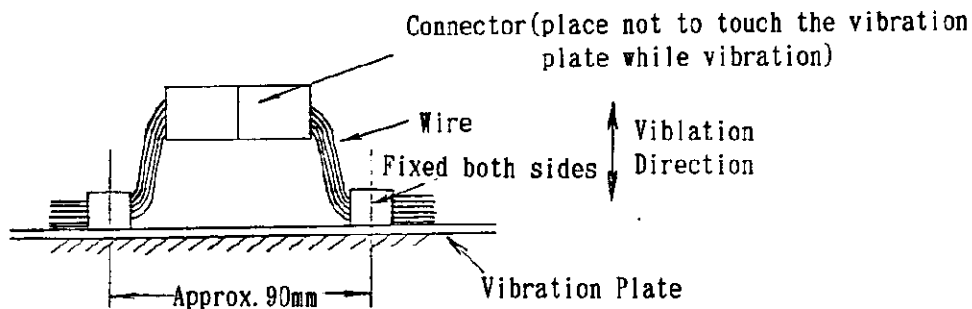
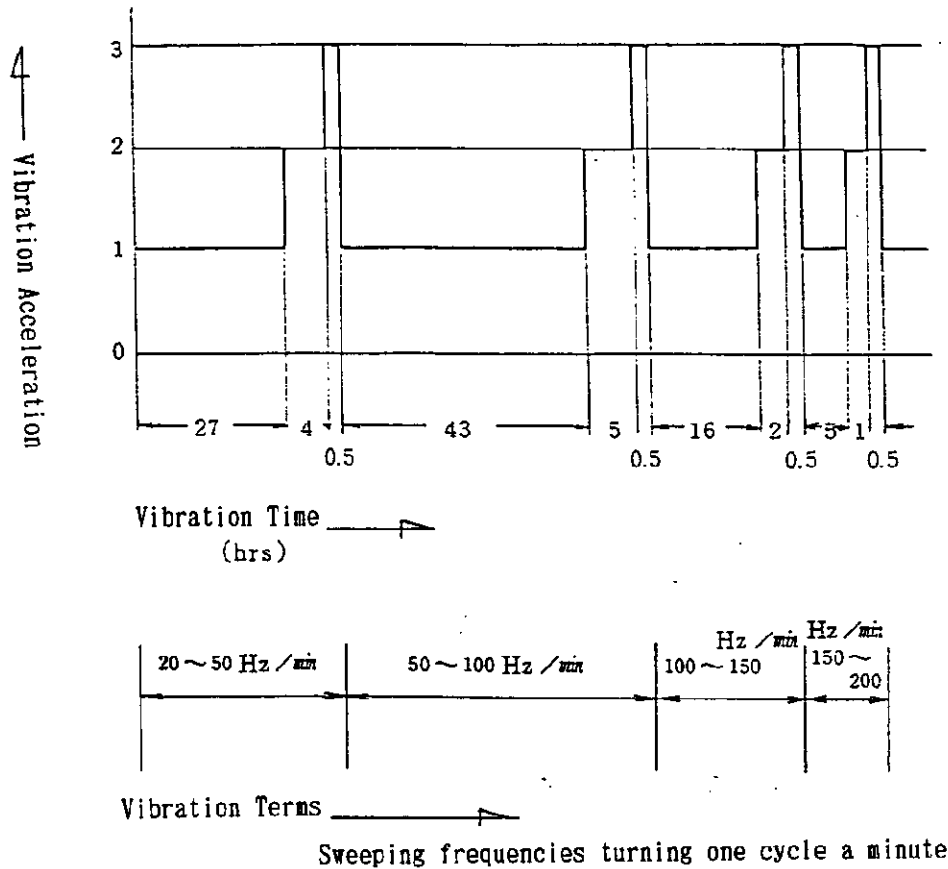

Fig. 4
Fig. 5
Contact loaded and mated pair of connector assemblies shall be tested for vibration stability performance with all contacts series wired, by having assemblies securely fastened on the plate of vibration testing machine being arranged as shown in Fig.4. Vibration shall be applied shown as Fig.5, and be monitored for the loss of electrical discontinuity taking place in the circuit.
Contact loaded and mated pair of connector assemblies shall be tested for Physical Shock with all contacts series wired and energized with closed circuit test current of 1A at open circuit voltage of 12V DC flowing through the circuit on the vibration testing machine as shown in Fig. 4. Applied JIS D5500 item 6.6, Physical Shock shall be given for 1 hour and during the test, the test circuit shall be monitored for the loss of electrical discontinuity taking place in the circuit.